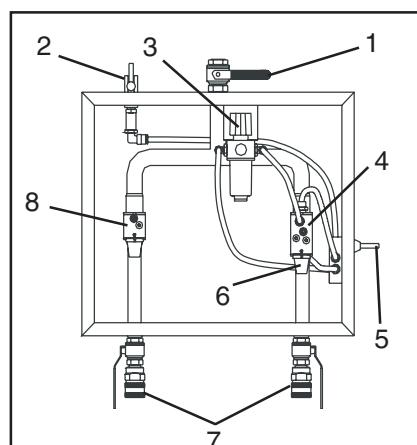

Fig. 8
**S3000 D, S3000 DU, S3100 D, S3100 DU** (fig. 8, without User Pack\*)